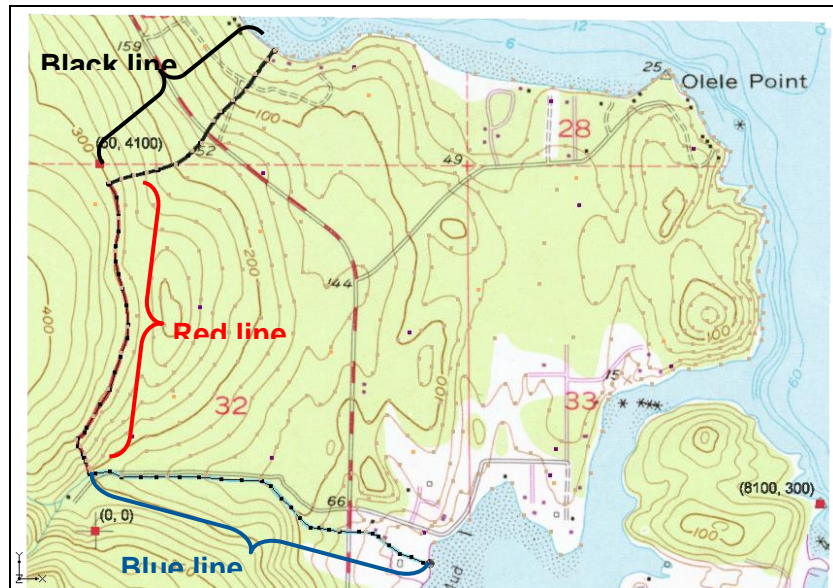

Figure 1 First three boundary arcs
2. Using the **Create Arc**  tool, click out a series of vertices to create an arc for the black line, double-clicking to end the arc (black line in Figure 1).
3. Click out a series of vertices to create an arc for the red line, pressing *Enter* to end the arc (red line in Figure 1). Make sure the arcs are connected by starting precisely at the ending point of the previous arc.
- Click out a series of vertices to create an arc for the blue river line (blue line in Figure 1). Again, make sure the arcs are connected
1. Using the **Select Arcs**  tool, hold down the *Shift* key and select the coastline arc and the stream arc (the blue one in Figure 1, above).